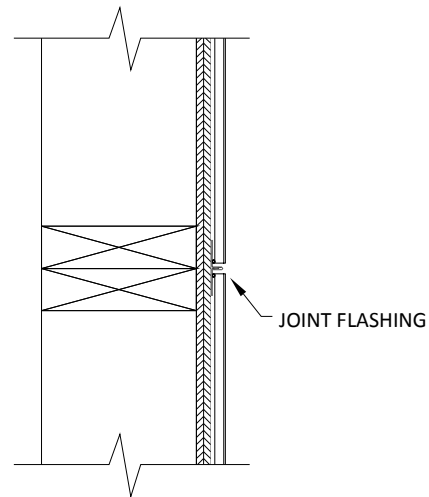

Fig. 8 – Horizontal Panel Joint Spacing
5. Once finished with the first level of panel installation continue to the second level. Installation will be the same as the first level. Caution should be taken as your height of installation increases as the panels are very heavy. If necessary equipment can be utilized to help during the installation. It is the responsibility of the installer to determine the proper use and attachments of panels to such equipment. (Fullerton can suggest types and uses of equipment if requested) Be sure to allow for horizontal joint spacing unless noted otherwise. See fig. 8